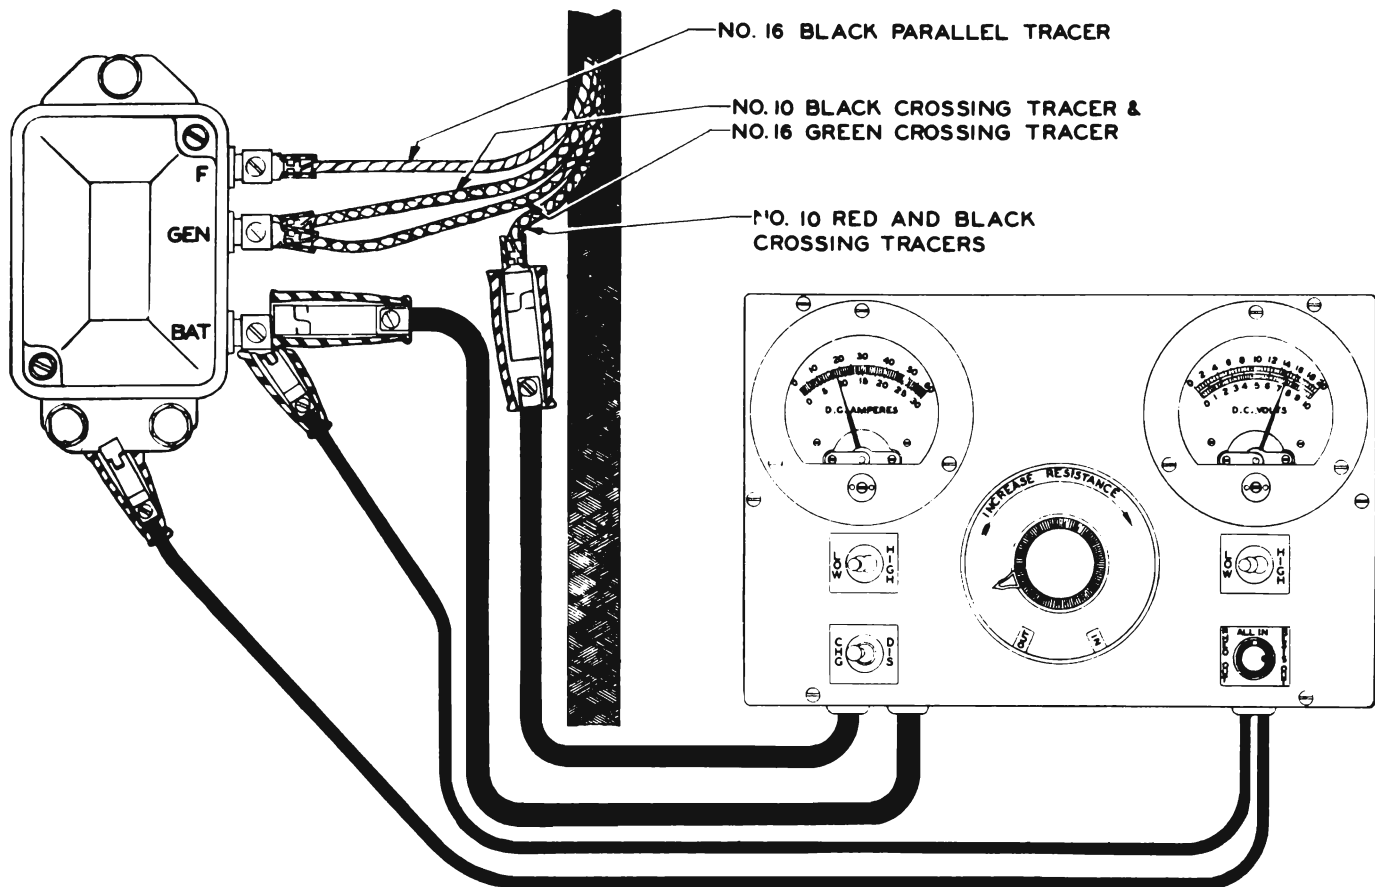

Figure 10-25—Voltage Regulator Test Connections
1. With wire disconnected from "BAT" terminal of regulator, connect an ammeter and a ¼ ohm variable resistance in series between "BAT" terminal and the disconnected wire, and connect voltmeter between this terminal and ground on regulator base plate. See figure 10-25.